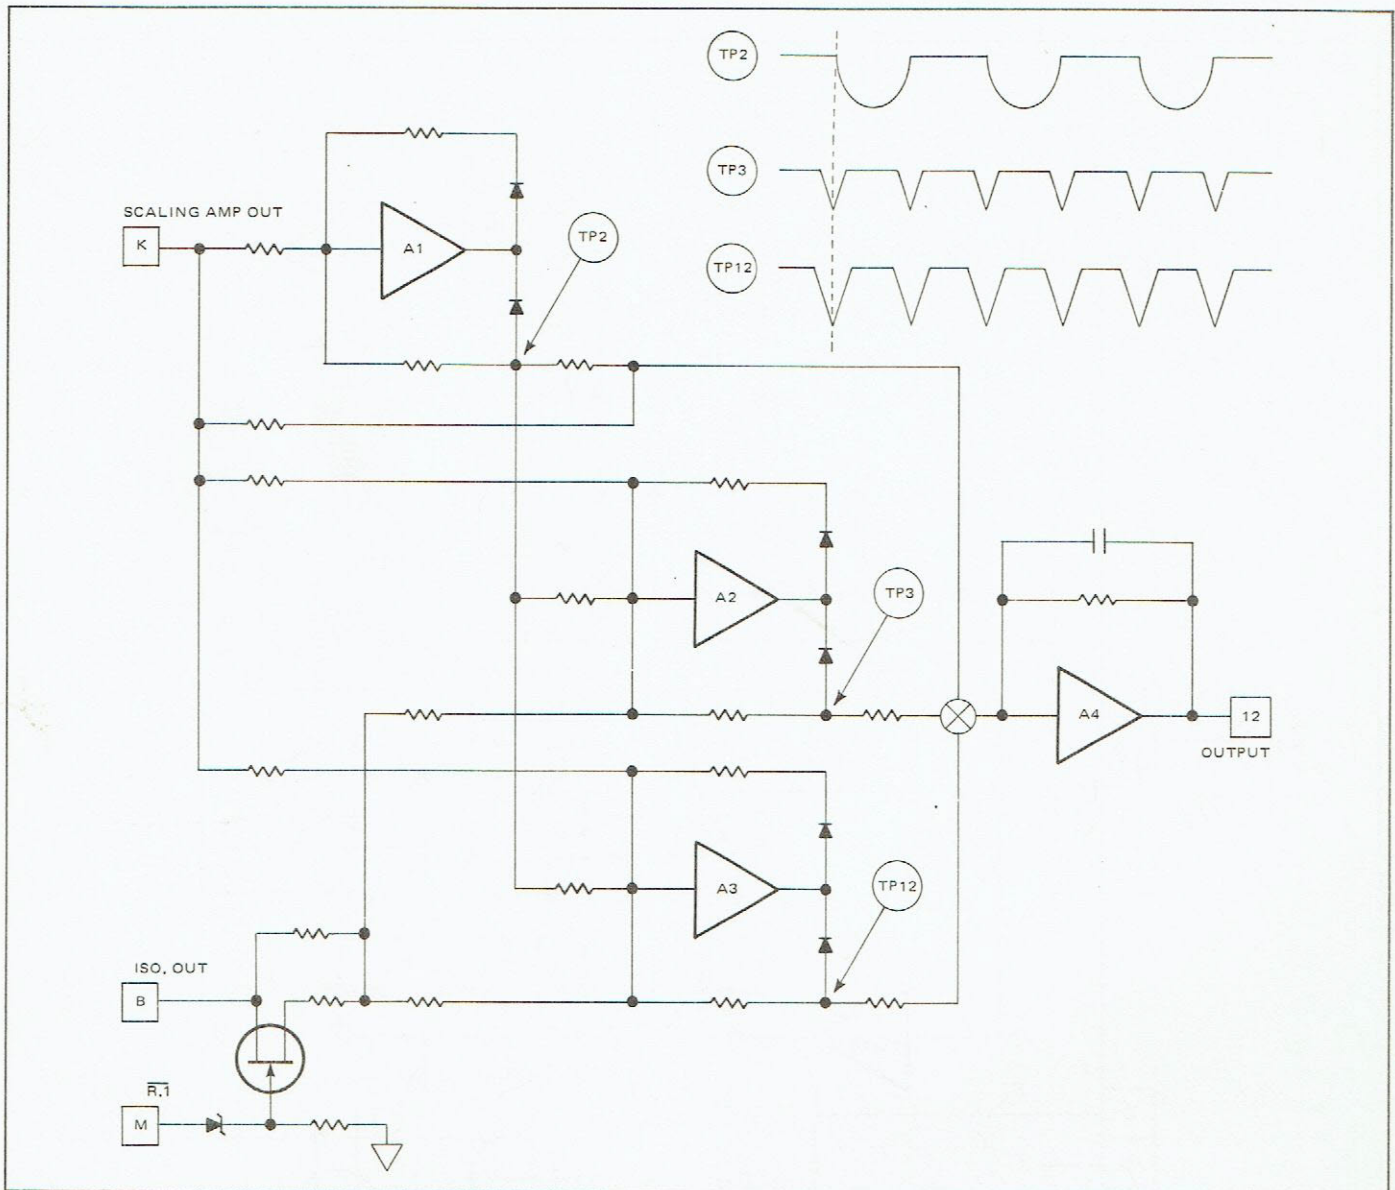

Figure 4.8 - Simplified Schematic - DIAC Converter
4.49 The DIAC converter (figure 4.8) uses the scaled output of the scaling amplifier along with the DVM isolator output (whose value is a function of the ac input) to produce a distortion insensitive dc equivalent of the ac input. The